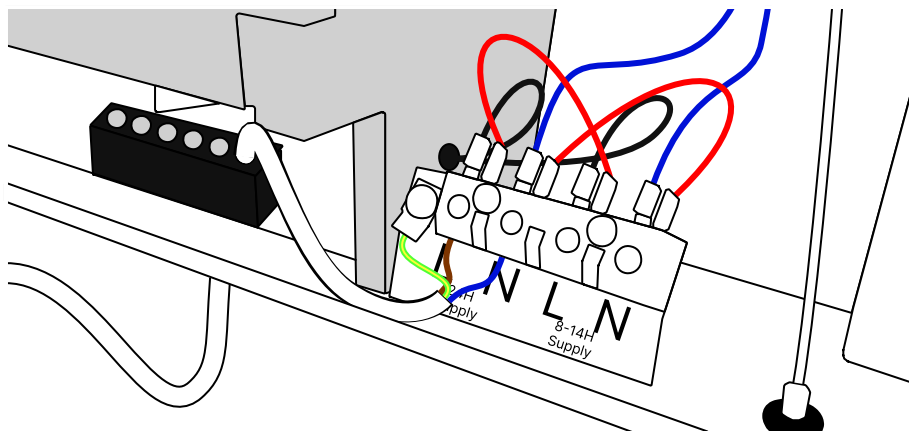

Figure 6 | Connecting the power supply (24 hour use)
25. **For 24 hour use (no charging times)**, install 2 red jumper cables between L (24H) and L (8H/14H), and between N (24H) and N (8H/14H). (**Figure 6**) Skip forward to step 32, and do not install the 8-14H supply cable.